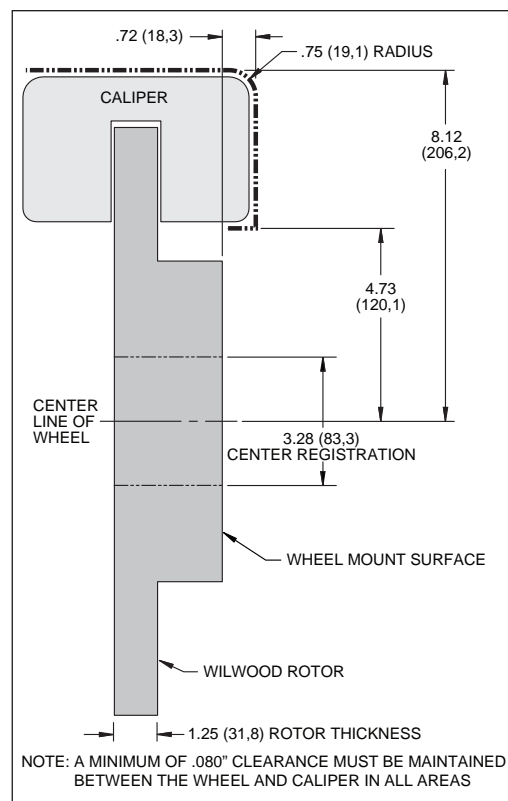

Figure 2. Wheel Clearance Diagram
- Review the wheel clearance diagram (Figure 2, page 3) to verify there is adequate clearance with the wheels you will be using with the installation.
- Verify your wheel clearance using Figure 2.